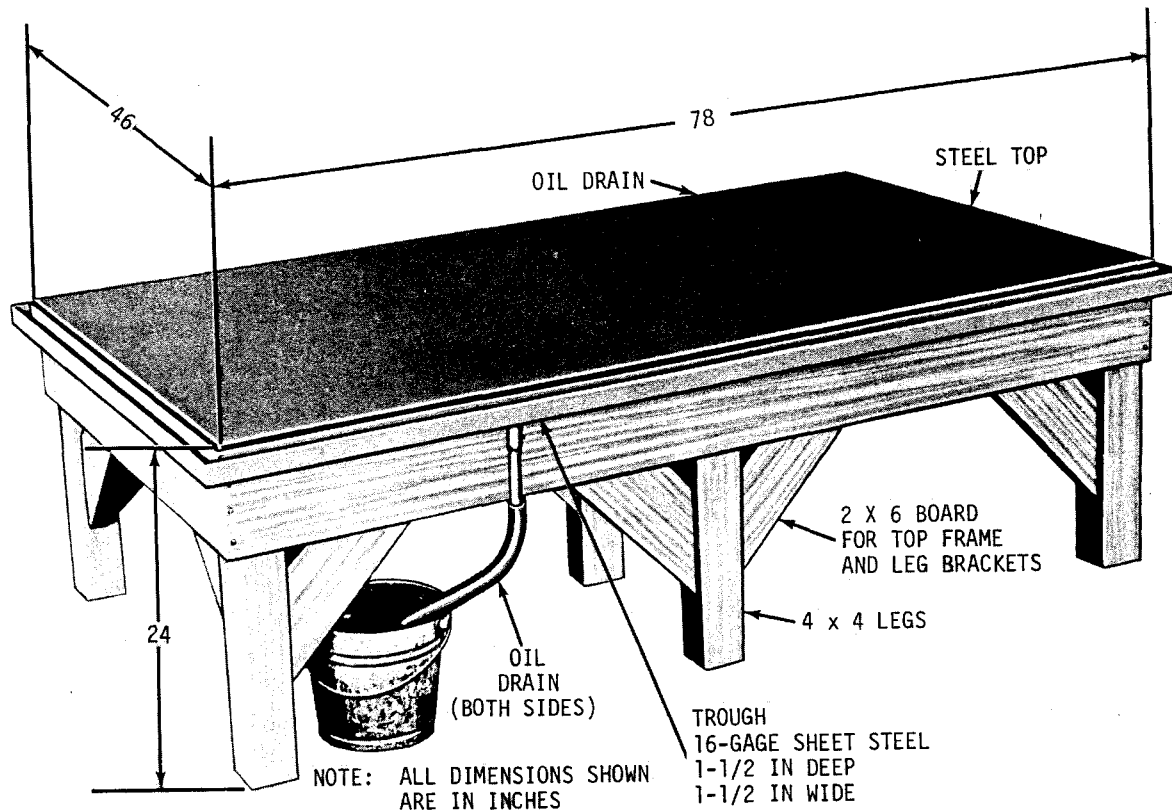

Fig. 4-1. Disassembly and assembly table
a. Equipment. Proper equipment should be available before overhaul is started — a suitable hoist, proper hand tools, receptacles for small parts, and a press. A disassembly-assembly table (fig. 4-1) and an overhaul stand (fig. 4-2) are helpful but not essential.